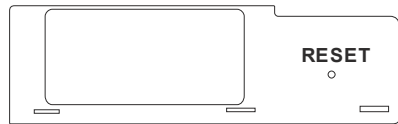

Figure 44
1. Press and hold, using a pointed object, the receiver's reset button until you hear two acoustic signals (see **Figure 44**).